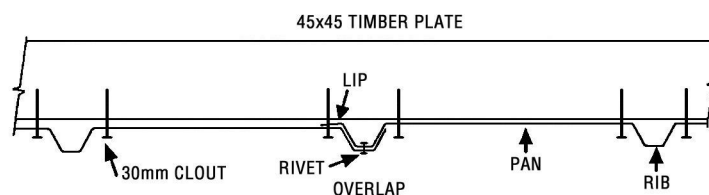

fig. 1
Step 6: Position a Jack Stud on each end of Ridge Beam and nail in place using two 75mm nails each end (**fig. 1**). Turnover Ridge Beam / Jack Studs, position centrally on 2.545m Top Plates and nail to Top Plates using two 75mm nails per Jack Stud.
When fitting Gable End Sheets ensure they overlap correctly (*fig 1*).
Step 2: Back Wall: Position the first Wall Sheet with the LIP on the right hand side. Ensuring the LIP is flush with the side of the Studs and the top of the Wall Sheet is flush with the top of the Top Plate, tack in place. Position the next Wall Sheet with the LIP on the right hand side. Overlap as shown in (fig 1). Ensuring Wall Sheet is flush with top of Top Plate, tack in place. Repeat with remaining sheet.